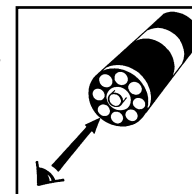

Figure 3
9. Obtain a test result by placing the ampoule, flat end first, into the comparator. Hold the comparator up toward a source of light and view from the bottom. Rotate the comparator until the best color match is found (fig. 3).